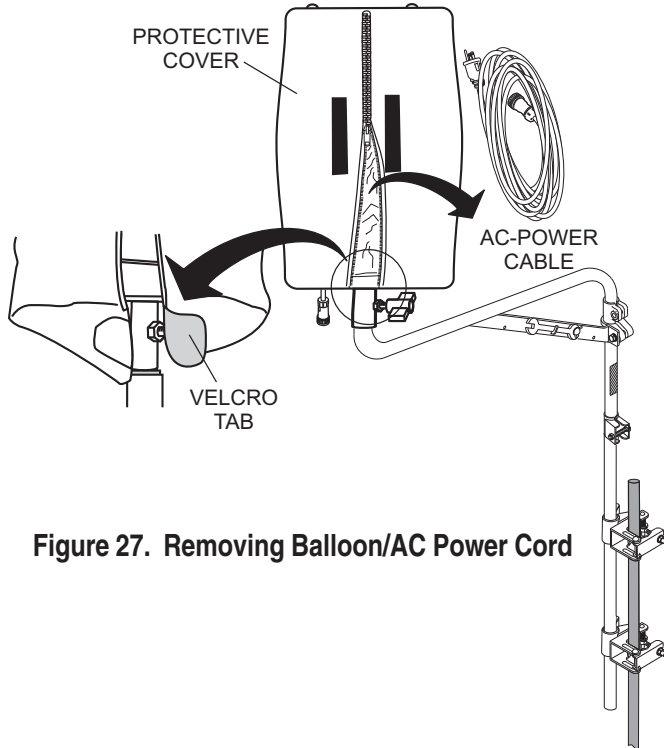

Figure 27. Removing Balloon/AC Power Cord
1. Expose the balloon by pulling down on the velcro tab and unzipping the protective cover as shown in Figure 27. Also remove the AC power cord at this time.